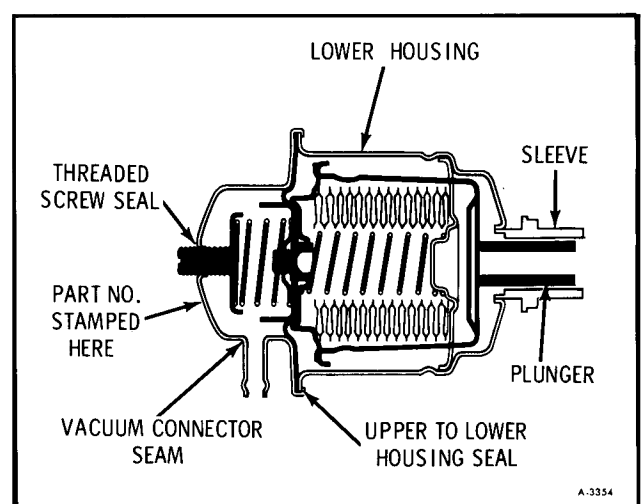

Figure 11—Modulator Assembly
2. Atmospheric Leak Check. Apply a liberal coating of soap bubble solution to the vacuum connector pipe seam, the crimped upper to lower housing seam, and the threaded screw seal. See Figure 11. Using a short piece of rubber hose, apply air pressure to the vacuum pipe by blowing into the tube and looking for bubbles. If bubbles appear, replace the modulator.